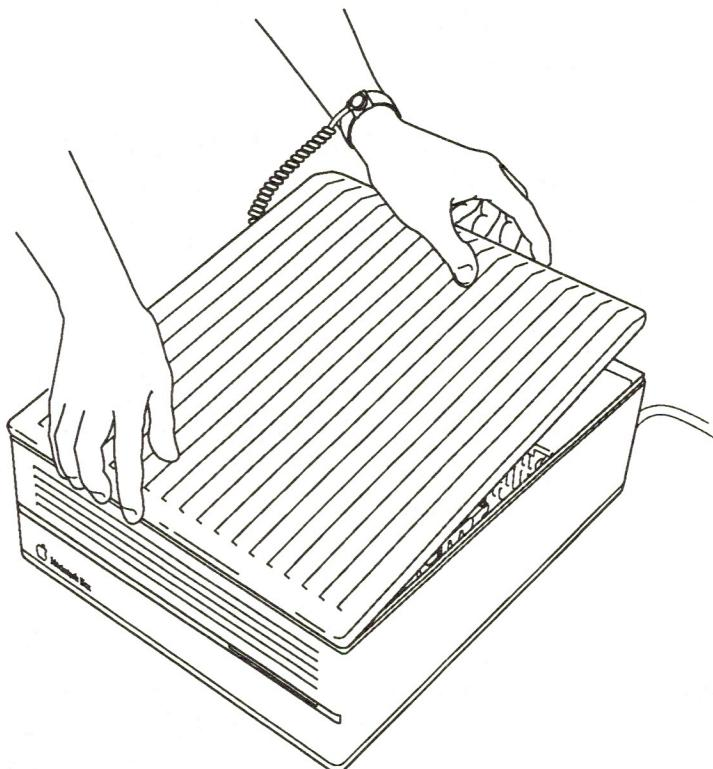

Figure 26. Replacing the Macintosh IIcx lid
- a. Tip the front of the lid down onto the front edge of the computer case, as shown in Figure 26.